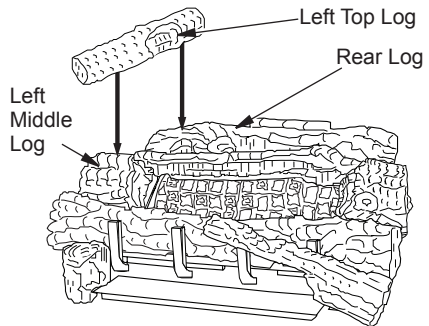

Figure 36 - Installing Left Top Log
9. Place the left top log onto the rear log and the left middle log. Make sure to place the projection on the bottom of the left top log into the recessed areas on the rear and left middle logs (see Figure 36).